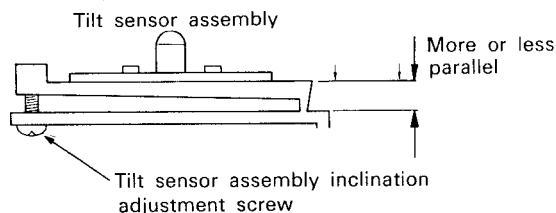

Fig. 7-1 Tilt sensor assembly inclination adjustment
3. Adjust the tilt sensor assembly inclination adjustment screw (rough adjustment) to make the tilt sensor assembly more or less parallel with the installation platform. (See Fig.7-1).
2. Adjust the tilt sensor assembly inclination adjustment screw to obtain a reading of 0 ± 50 mV at the foot of R63 on the PREB assembly (on the side where "TILT ERR" is written). In doing so, be careful not to let external light enter the sensor (Refer to Fig.7-1). When doing this, be careful not to let external light enter the sensor.
4. Remount the assembly into the player and connect Connector CN34 which had been temporarily removed (7.2, item 6)